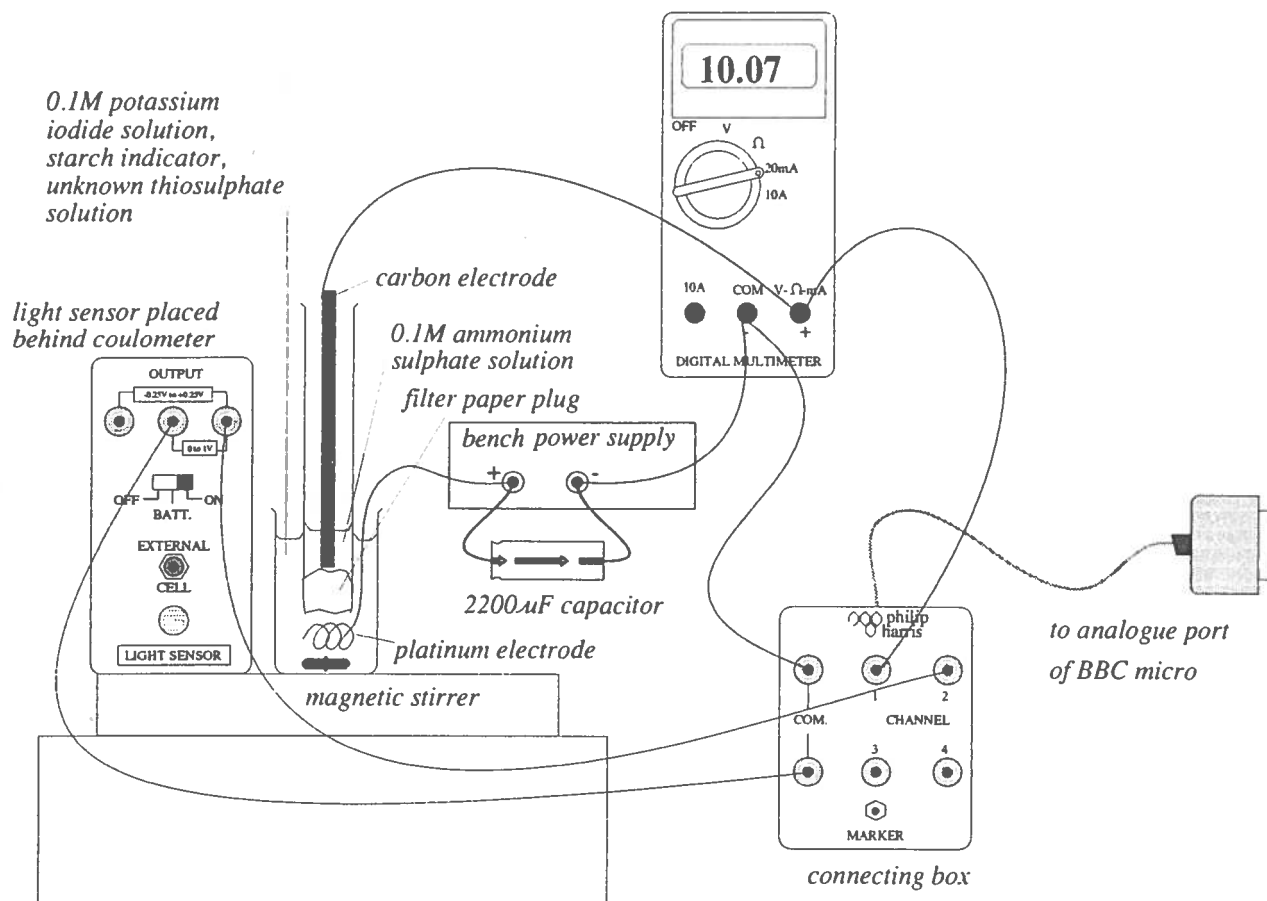
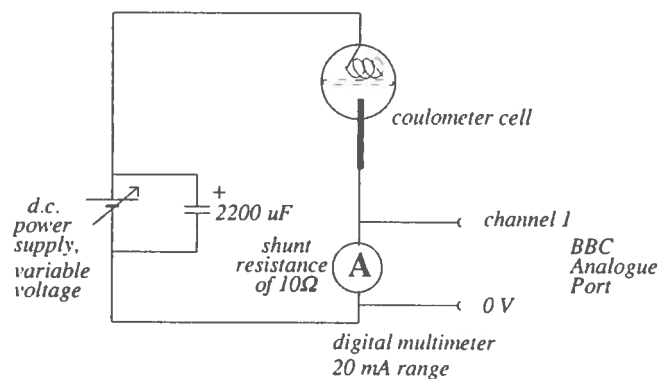

Fig.14 Apparatus (schematic) for interfacing coulometer cell
Fig.15 Circuit diagram - measuring 'current'
Dataloggers or Analogue Port interfaces cannot measure current directly. They can only measure voltages. The current supplied to the coulometer cell was measured by monitoring the voltage drop across a digital multimeter set to the 20 mA scale. The impedance of the meter (10  $\Omega$ ) produces a voltage drop of 0-0.2 V corresponding to a current measured of 0-20 mA (Fig.14). Fig.15 shows the circuit diagram.
Type in <Current (A)> as the units for calibration. With the power supply switched off, enter <0> (zero) as the first set-point. Make sure the beaker (100 cm3) contains 1 cm3 of the unknown e.g. 0.1M sodium thiosulphate solution as well as the other solutions in Fig.14. Switch on the magnetic stirrer and carry out the next few steps as quickly as possible - switch on the power supply, adjust the voltage till a current of 10 mA is displayed on the multimeter and enter <0.01> as the second set-point. Remember our unit for this channel is the ampere! Switch off the power supply immediately after calibration.